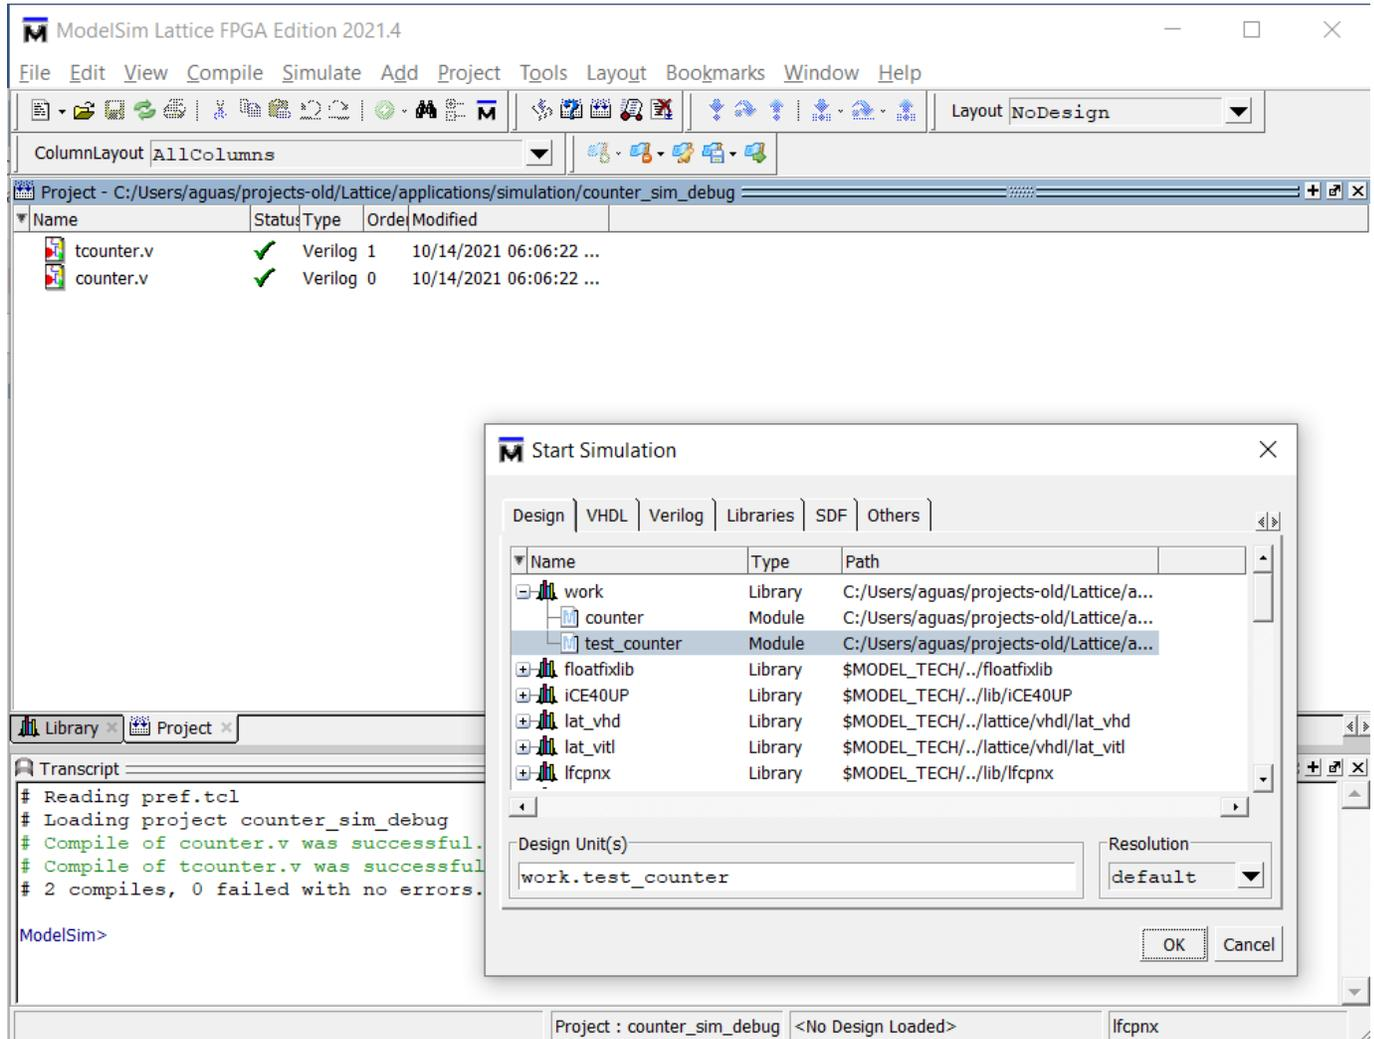

Figure 6: Starting a Simulation
7. Form the top menu, select **Simulate > Start Simulation...** and select **test_counter.v** in the work library and click **OK**, see **Figure 6**.